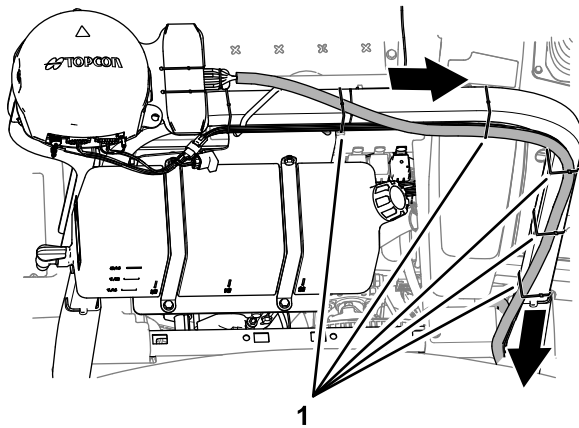

Figure 55
1. Route the modem-antenna harness along the roll bar as shown in Figure 55.
3. Secure the modem-antenna harness to the roll bar with 5 cable ties as shown in Figure 55.